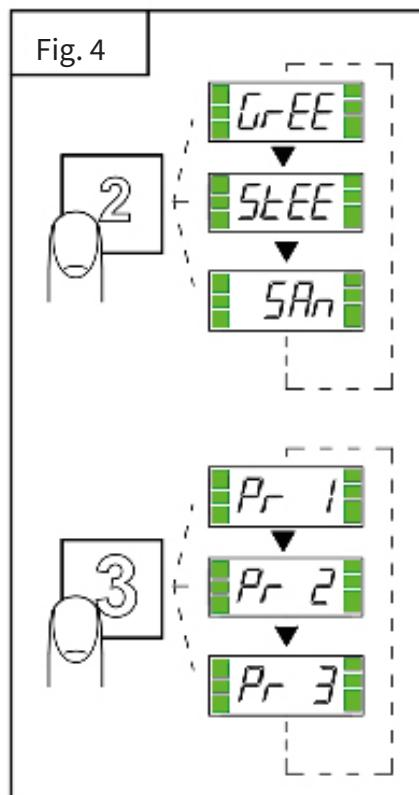
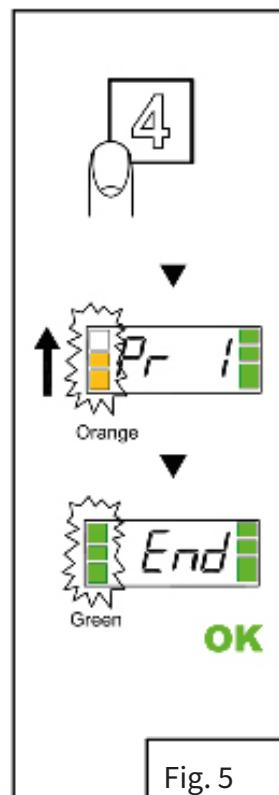

Fig. 4
Fig. 5
(2) Select the wash cycle suitable for the type of dishes; the selected wash cycle will appear on the display (Fig. 4).
- Press the START button (4) to start the program, the STATUS BAR (6) will flash orange and increase from bottom to top to indicate the cycle time.
- When the cycle is complete, the bar lights up green (Fig. 5).
- To end the wash cycle early, press the START button (4).